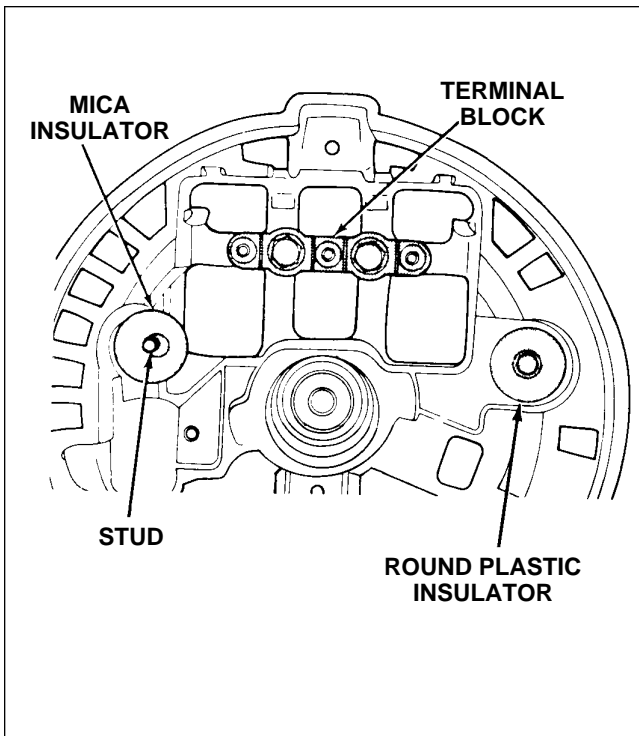

Figure 24-36. Installation of Chrysler Alternator
- g. Install round plastic insulator, flat face up, in battery stud hole in the end shield. (Refer to Figure 24-36.)